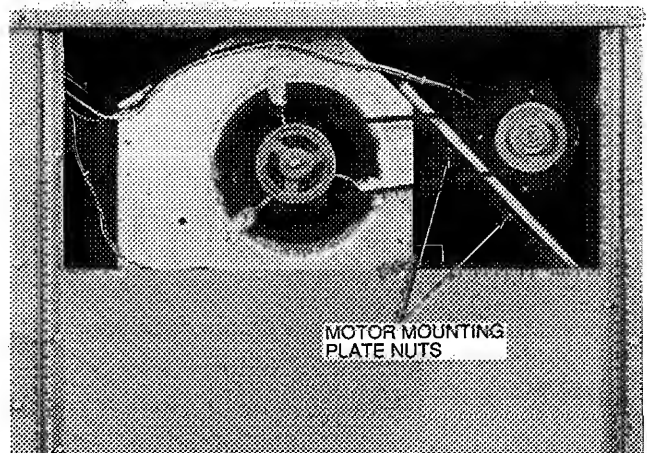

Fig. 26 – Belt Drive Motor Mounting
2. Loosen belt by loosening fan motor mounting nuts. See Fig. 26.